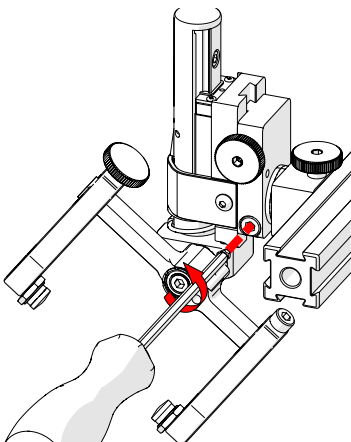

Fig. 102 - Loosen 3 mm screw
2. Using the supplied 3 mm hex driver (*Fig. 27*), loosen the longitudinal adjustment screw (*Fig. 102*).